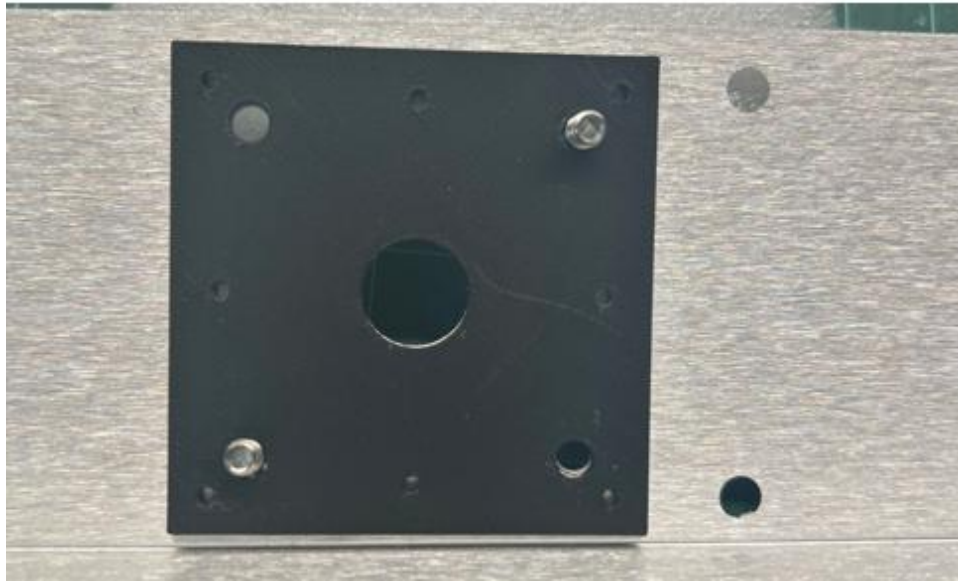

Figure B-2 — Template fastened to the bracket using two diagonal existing holes.
2. Attach the NYRS-supplied template to the bracket as shown in Figure B-2, using hardware from the old motor or any other convenient fastener that holds the template firmly in place. Two diagonal holes are enough.